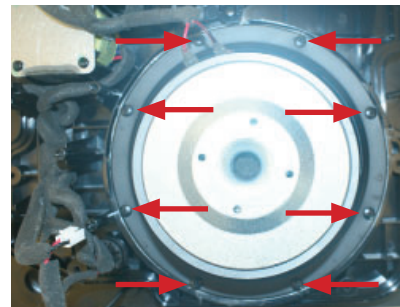

Figure 24
6.3 Remove the eight screws that secure the woofer to the baffle as shown in figure 24. Carefully remove the woofer.